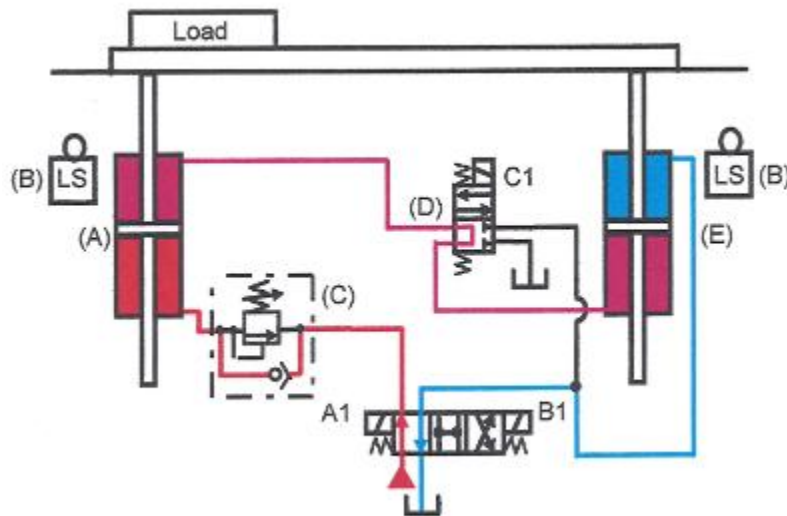

Figure 22-8. Synchronizing circuit with double-rod end cylinders in series flow. Cylinders are extending.
Energizing solenoid A1 of the main directional valve, as in Figure 22-8, sends oil to cylinder (A), causing it to extend. Oil from the opposite end of cylinder (A) flows through leveling valve (D) to the push end of cylinder (E). Oil from the opposite end of cylinder (E) flows to tank through the main directional valve. When the trapped volume is completely full and if all seals do not leak, the cylinders synchronize nearly perfectly, regardless of load position.